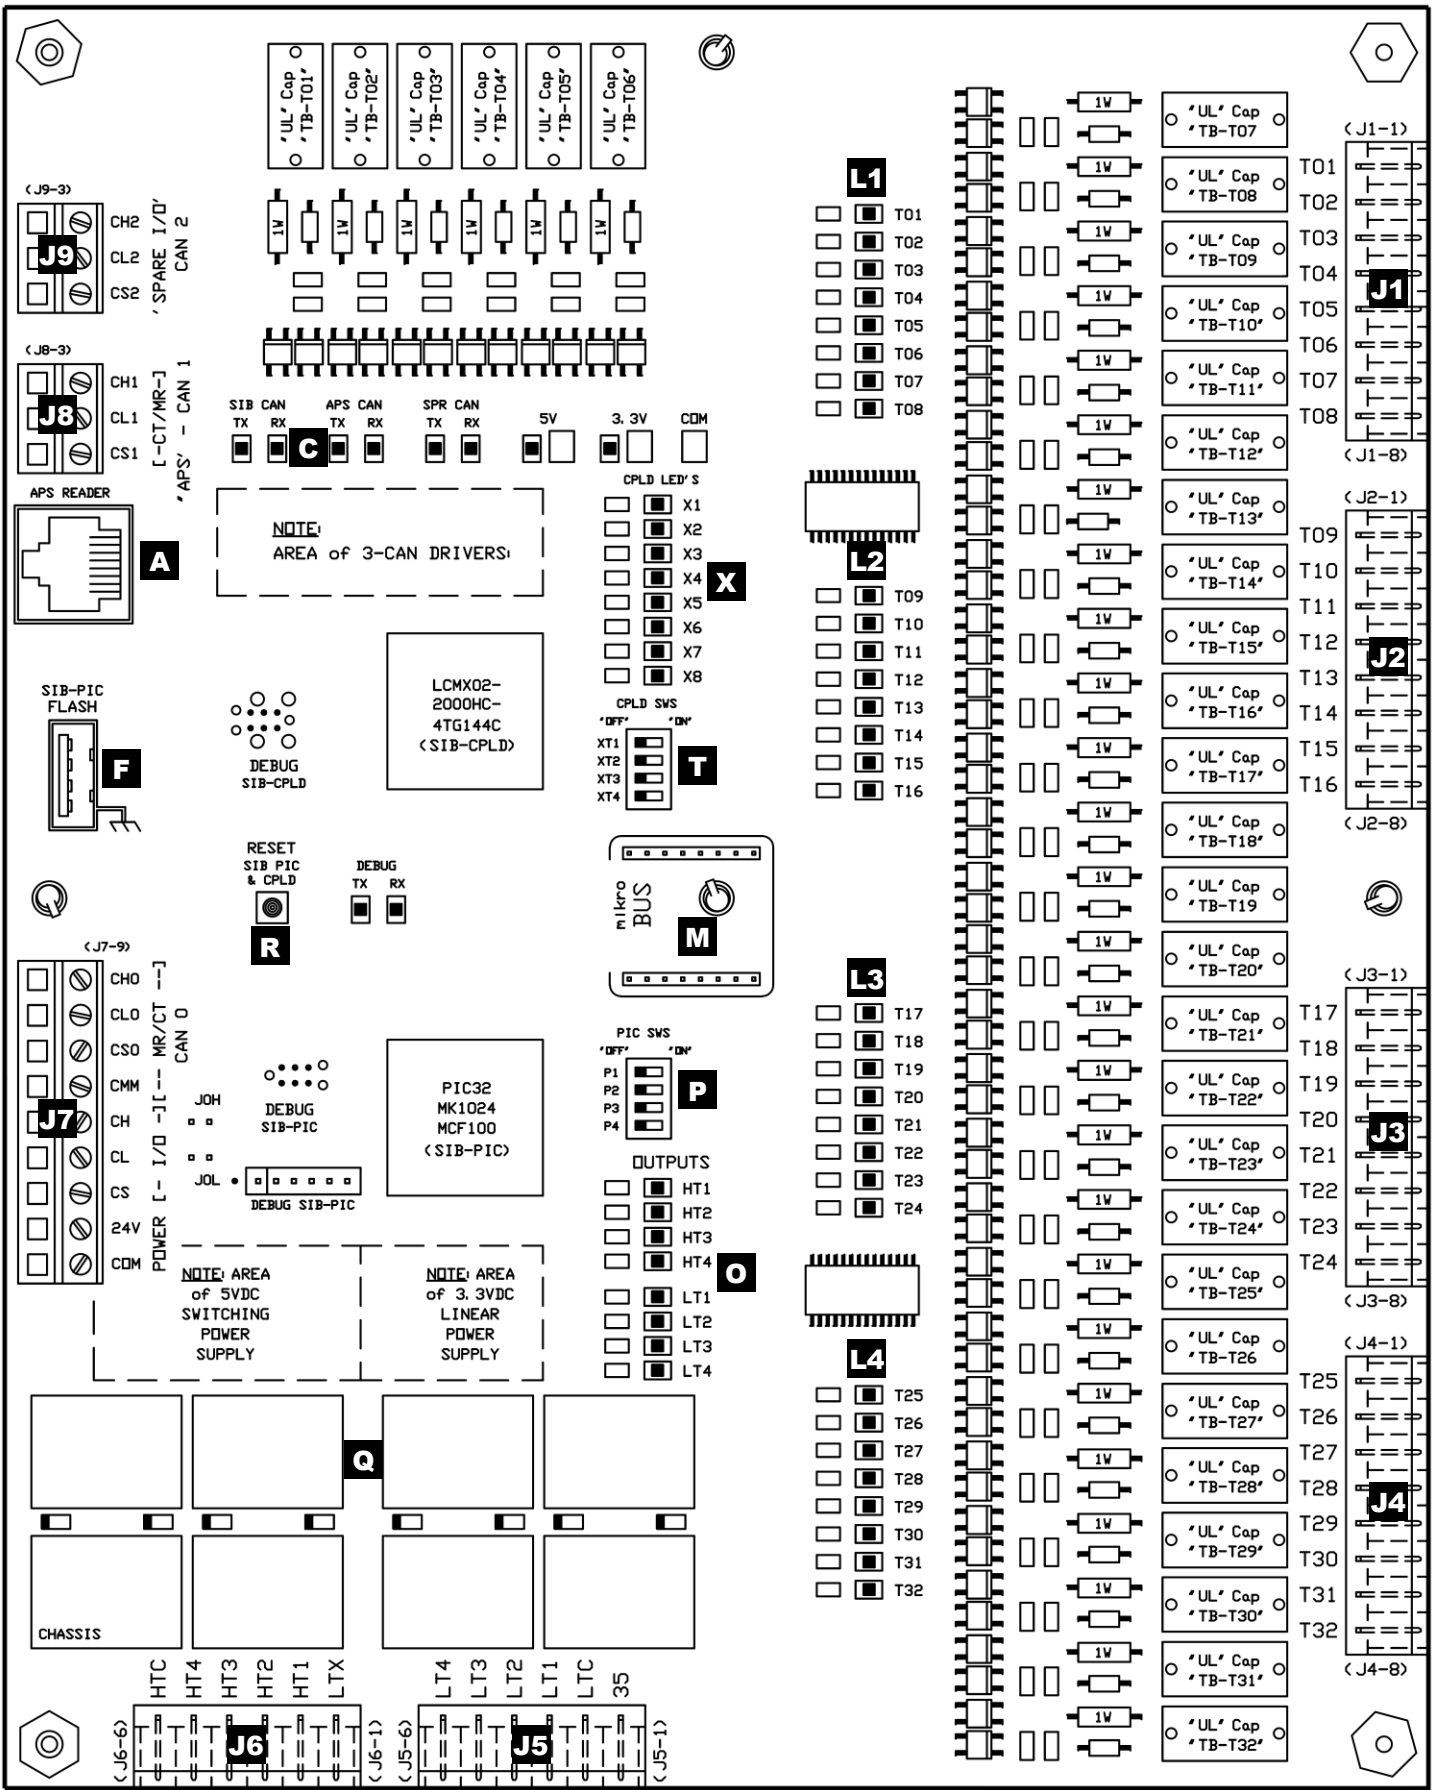

Figure 24: Car Top Safety Interface Board (CT-SIB) layout
The Car Top Safety Interface Board (CT-SIB) layout is shown in Figure 24 and the descriptions are in Table 16.
**Table 16: MR-SIB Layout Descriptions from Figure 24.**
(See CT-SIB items Q, J5, J6 in Figure 24)